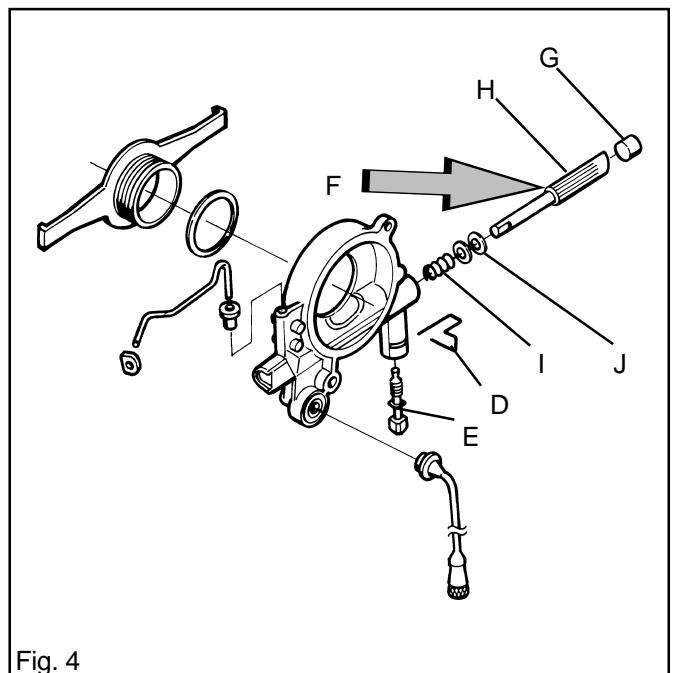

Fig. 4
7. Remove the clip (D) and unscrew the adjuster screw (E). See fig 4.
8. Using pliers, press on the plug piston at F so that the cover plug (G) and piston (H) can be removed. See fig 4.
9. Using pliers, remove the spring (I) and the two washers (J). See fig. 4.
2. Locate the spring (I), 2 washers (J) and pump piston (H) in the pump casing. Oil in all components with chain oil. See fig. 4.
3. Using a screwdriver, push in the pump piston and screw home the adjuster screw (E) fully. See fig. 4.
4. Locate the cover plug. (G). See fig. 4.
5. Fit the clip (D). See fig. 4.
In cold start mode (fig. 4), the choke butterfly (D) is completely closed. This increase the vacuum in the carburettor so that fuel is sucked more easily from the diffuser jets (E, F and G). The throttle butterfly (H) is partially open.